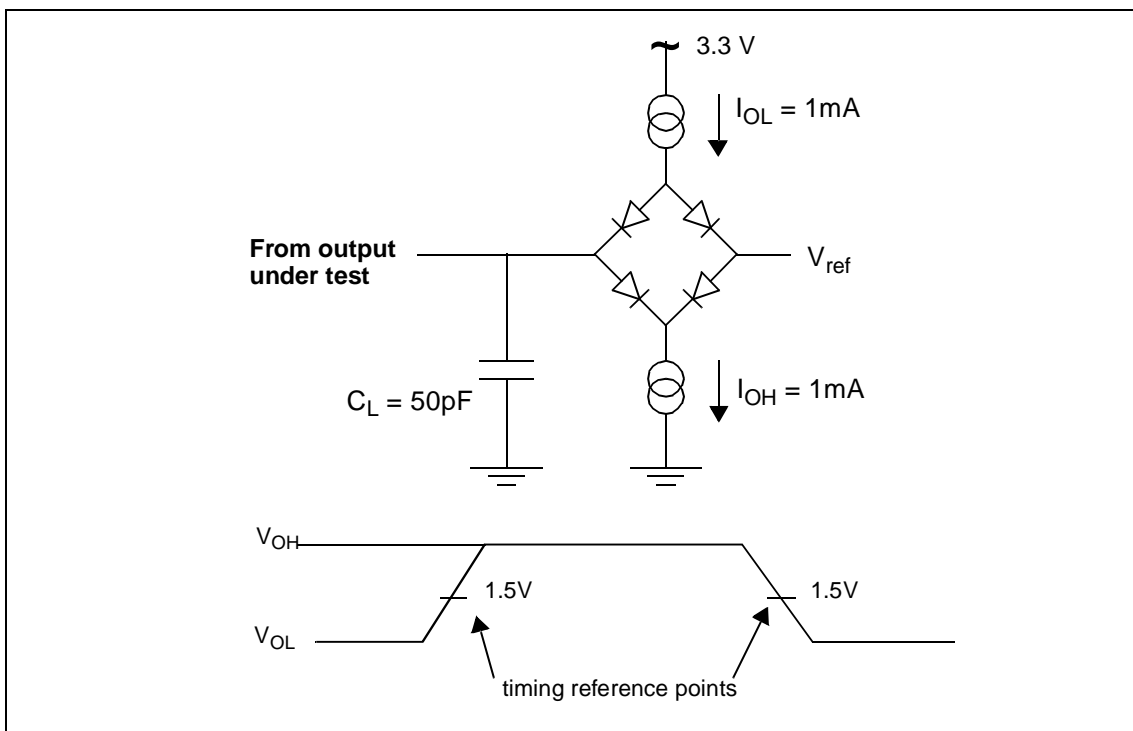

Figure 12 Output load circuit waveform
- Output load: ..... see Figure 12